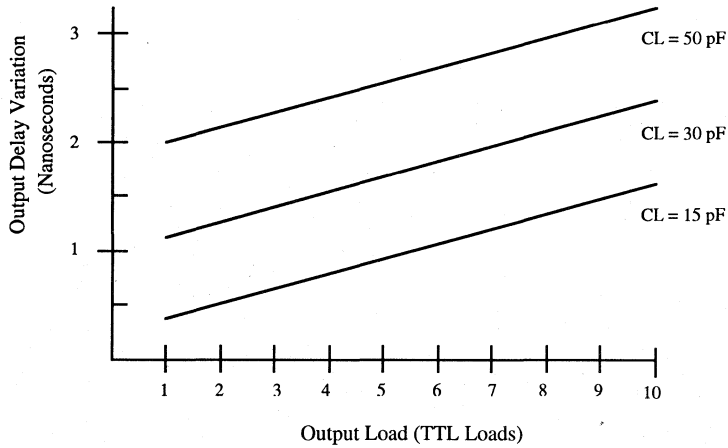

Figure 4. Output Delay versus Tap Loading.
*Note 3:* More loads may be driven with degraded delay accuracy specification. See Figure 4, Output Delay versus Loading. One TTL load is defined as Vil = 0.4 V max at Iil = 1.6 mA and Vih = 2.4 V min at -40 μA.